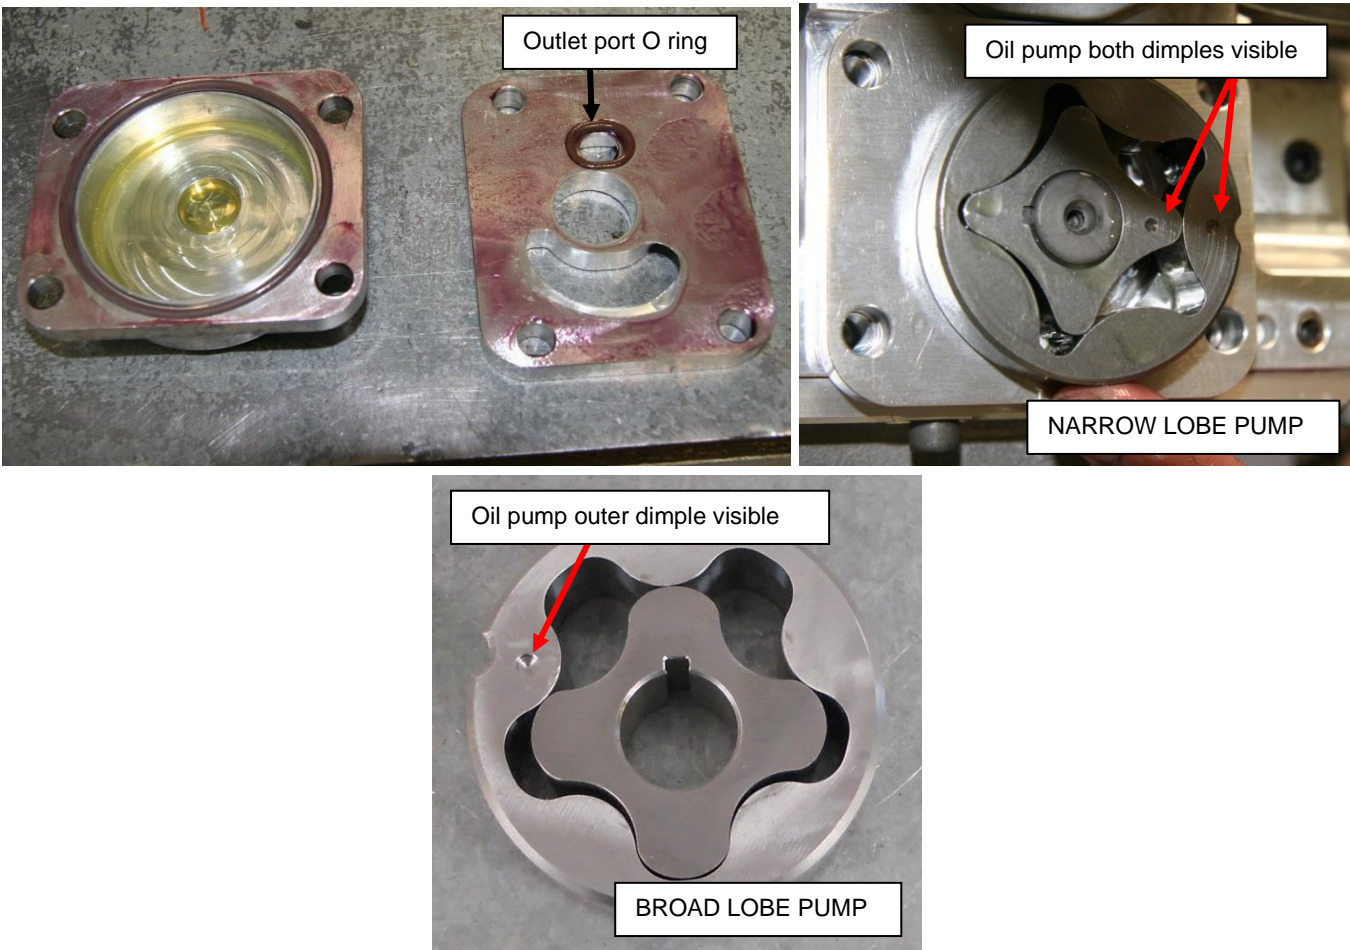

Figure 209 – Fitting Oil Pump & Port Plate
- Fit a new BS112V O ring to the port plate to seal the pressure delivery port (Figure 209).
- For the **Narrow Lobe Pump**, Both dimples must be visible (i.e. facing outwards) Figure 209.